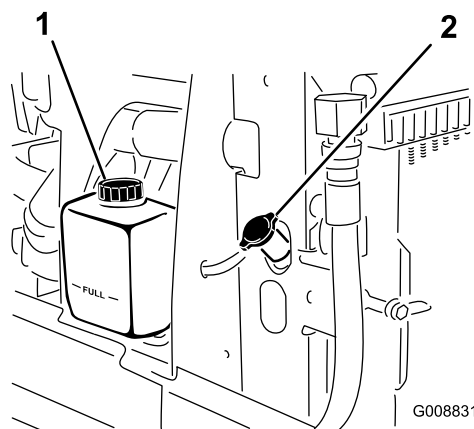

Figure 77
1. Carefully remove the radiator cap and expansion tank cap (Figure 77).